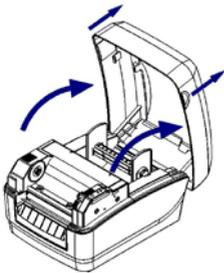

Figure 2.2.1
- 1) Hold the cover open lever with both hands to turn the top cover towards upwards, and then open the top cover of printer (see figure 2.2.1);